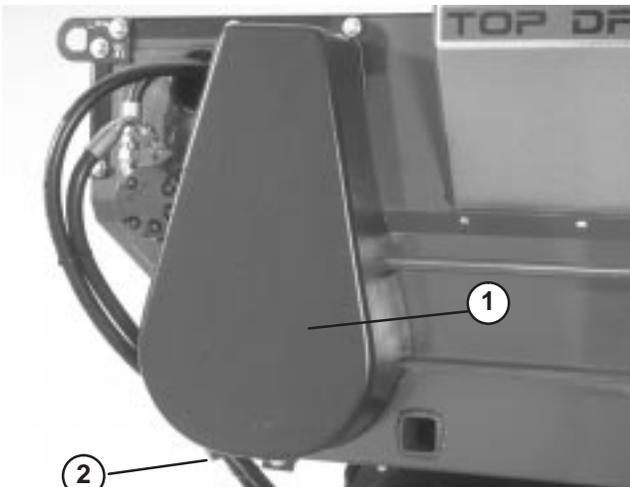

Figure 21
1. Remove chain cover, spacer and finger guard (Fig. 21).